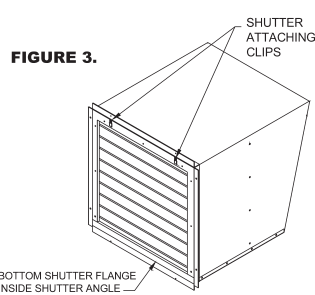

FIGURE 3.
- Mount automatic shutter to inside of fan wall housing by inserting bottom edge of shutter behind the bottom shutter angle with the top edge of shutter in front of the top shutter angle (see Fig. 3) and then securing with the snap clips on the top shutter angle. An optional inside guard can be mounted with the shutter in the same manner.